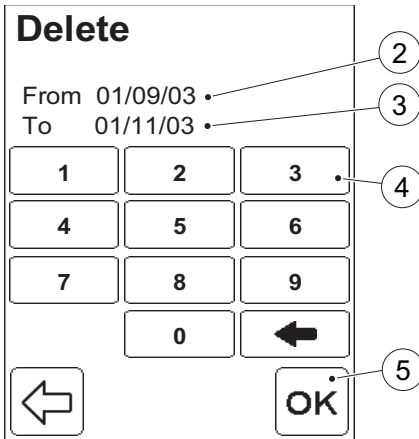

FIGURE 7-21
a) Select an option by pressing it. FIGURE 7-21 will be displayed.